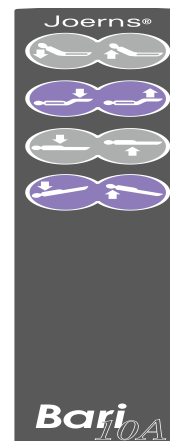

Figure 10
1. Your Bari10A bed comes standard with pendant control (see Figure 10). Resident/patient and staff can use the pendant to adjust all mattress support platform sections to desired positions.